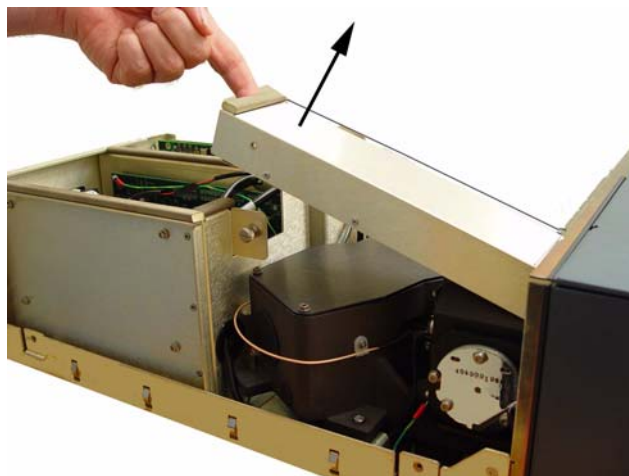

Figure 3 - Removing Plenum
7. Remove the plenum after loosening the captive screw securing it to the chassis (Figure 3).